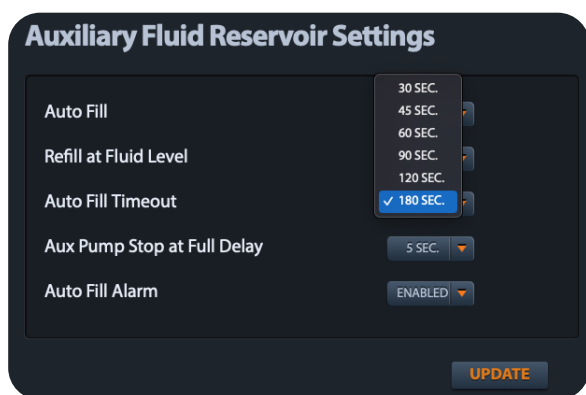
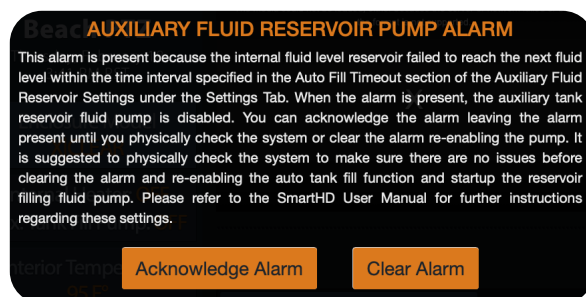

Figure 4.20 - Auto Fill Timeout
Figure 4.21 - AUXILIARY FLUID RESERVOIR PUMP ALARM
**Auto Fill Timeout (Figure 4.20):** The dropdown menu allows you to select values between 30 Seconds and 180 Seconds. The value selected is the amount of time the system will wait for the fluid in the internal reservoir to change to the next higher level before an AUXILIARY FLUID RESERVOIR PUMP ALARM (Figure 4.21) is triggered and the transfer of fluid stops.
**Auto Fill Alarm:** Options are Enabled or Disabled. If Enabled, the system will display the pop up alarm as shown in Figure 4.21 and stop the pump. If disabled is selected, the pop up alarm window and auto stopping of the pump is disabled. *Note: It is not recommended to disable the Auto Fill Alarm.*